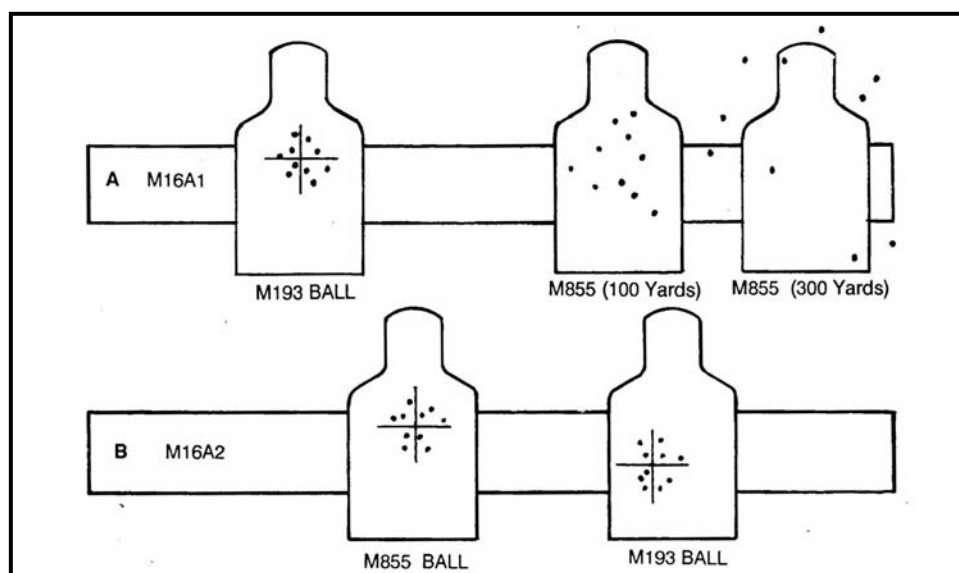

Figure 5-33. Ammunition impact comparison.
(1) The increase in projectile length, weight, and configuration of the M855 bullet requires different twists in the barrels, lands, and grooves to stabilize the bullet in flight. The M16A1 has a 1:12 barrel twist (the bullet rotates once for every 12 inches of travel down the barrel). The M16A2/A3/A4 and the M4 carbine has a 1:7 barrel twist (the bullet rotates once for every 7 inches of travel down the barrel).
(2) The M16A1, with its 1:12 twist, does not put enough spin on the heavier M855 bullet to stabilize it in flight, causing erratic performance and inaccuracy for training or full combat usage (30.48- to 35.56-centimeter shot group at 91.4 meters and 72-inch shot group at 274.2 meters) (Figure 5-33). Although firing the M855 cartridge in the M16A1 rifle is safe, it should only be used in a *combat emergency*, and then only for close ranges of 91.4 meters or less.
(3) The M16A2 rifle with its 1:7 twist fires both types ammunition with little difference in accuracy to a range of 500 meters. The M16A2 and its ammunition are more effective at ranges out to and beyond 500 meters due to a better stabilization of the round.
(4) The two 10-round shot groups in Figure 5-33, A were fired by a skilled marksman at a distance of 274.2 meters using the same M16A1 rifle. The 25.4-centimeter shot group on the left was fired (and zeroed) with M193 ammunition. The 6-foot shot group on the left was fired with M855 ammunition.
(5) Figure 5-33, B shows two 25.4-centimeter shot groups fired by the same skilled marksman at a distance of 274.2 meters using an M16A2 rifle. The shot group on the left was fired (and zeroed) with M855 ammunition. The shot group on the right was fired using M193 ammunition.